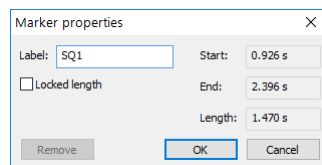

Figure 415 – Marker properties dialog
4. Release the left mouse button. The **Marker properties** dialog is automatically displayed (see Figure 415).